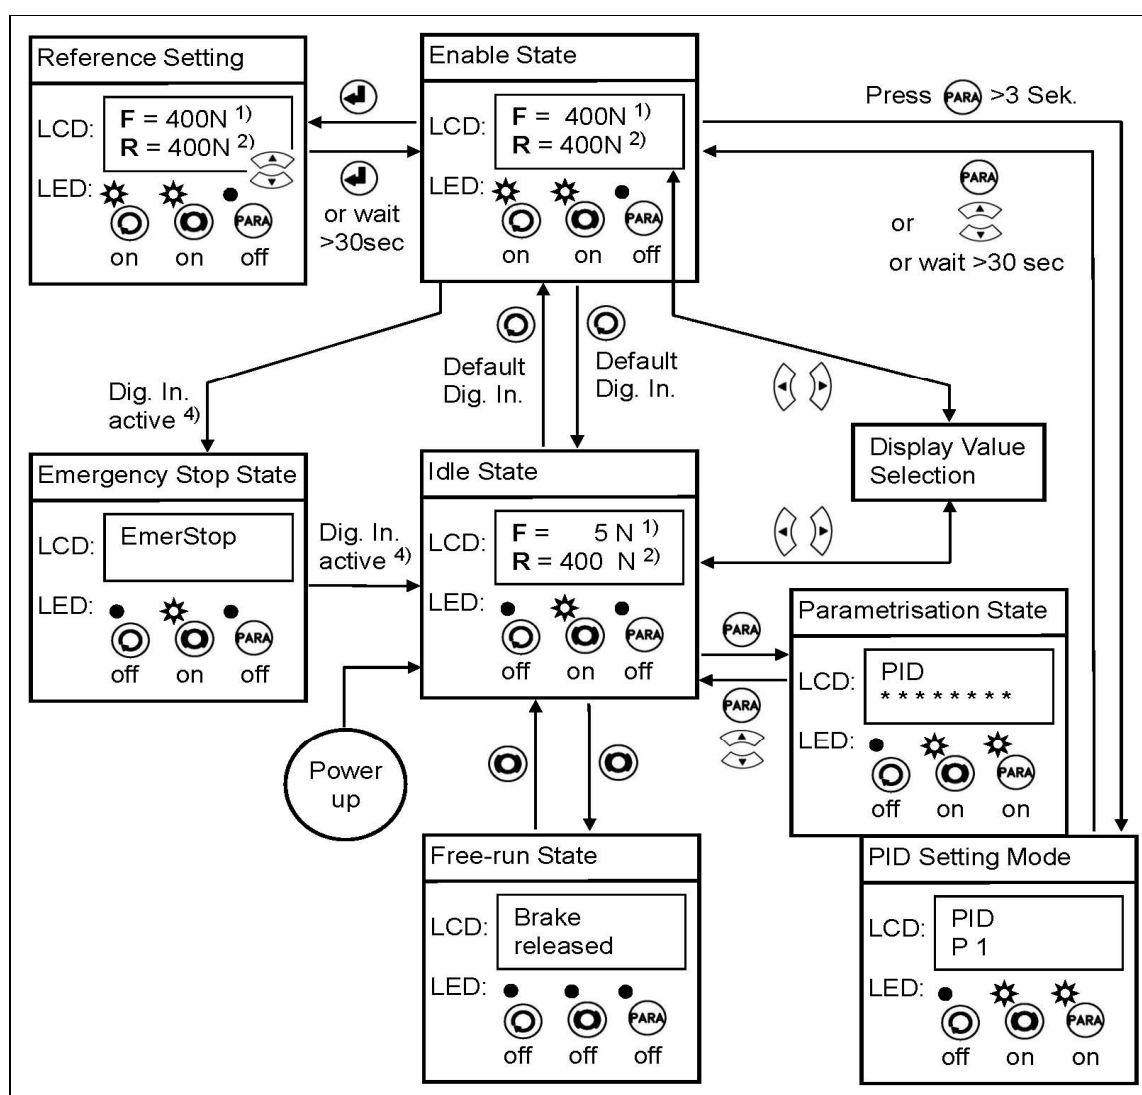

Fig. 12: Top-level view of operation control for brake applications
The user can toggle between the different states by pressing a key on the front panel. **Fig. 12** and **Fig. 13** provide an overview about the different Operation States and how to move from one state to the other.
2. Go to “Enable State” (see Fig. 12 or 13)
The Parametrisation State can only be accessed from the “Idle State”. From the “Enable State” only the Parameter Group “PID” can be reached (see **Fig. 12** and **Fig. 13**).